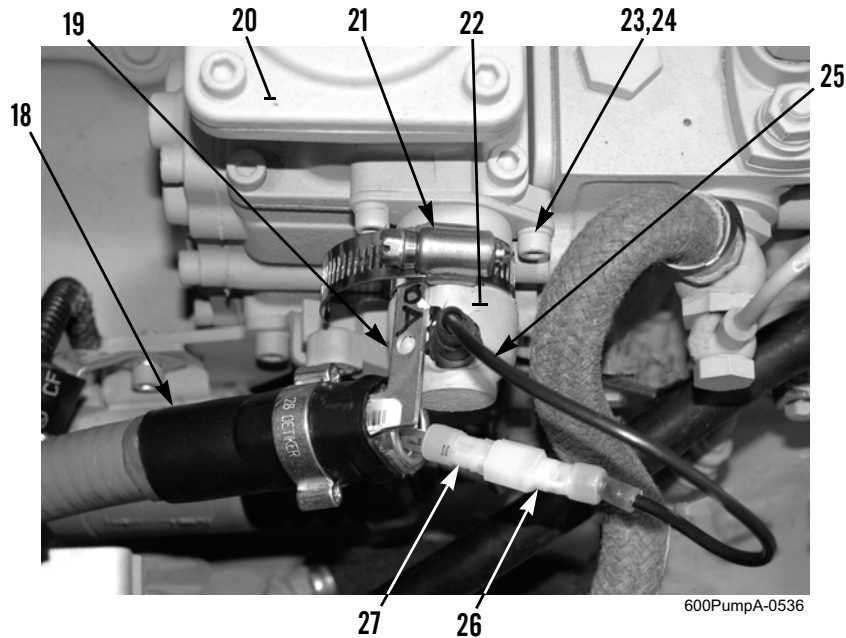
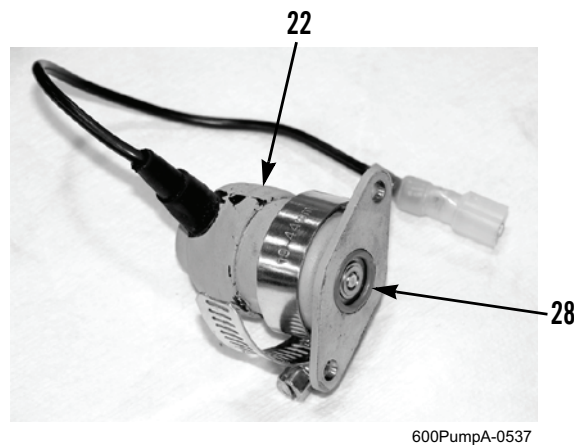

Figure 4. Electromagnet.
Figure 5. Electromagnet O-ring.
2. Pull black wire (Figure 4, Item 25) of electromagnet (Figure 4, Item 22) out of conduit (Figure 4, Item 18).
3. Disconnect connector (Figure 4, Item 26) of electromagnet (Figure 4, Item 22) from engine/control panel wiring harness connector (Figure 4, Item 27).
4. Remove clamp (Figure 4, Item 21) securing conduit L-bracket (Figure 4, Item 19) to electromagnet (Figure 4, Item 22).
5. Remove two capscrews (Figure 4, Item 23), lockwashers (Figure 4, Item 24), and electromagnet (Figure 4, Item 22) from fuel injection pump (Figure 4, Item 20). Discard lockwashers.
6. Remove O-ring (Figure 5, Item 28) from electromagnet (Figure 5, Item 22). Discard O-ring.
1. Install new O-ring (Figure 5, Item 28) to electromagnet (Figure 5, Item 22).
2. Install electromagnet (Figure 4, Item 22) on fuel injection pump (Figure 4, Item 20) with two new lockwashers (Figure 4, Item 24) and capscrews (Figure 4, Item 23).
3. Reposition conduit L-bracket (Figure 4, Item 19) and secure to electromagnet (Figure 4, Item 22) and tighten clamp (Figure 5, Item 21).
4. Connect connector (Figure 4, Item 26) of electromagnet (Figure 4, Item 22) to engine/control panel wiring harness connector (Figure 4, Item 27).
5. Push wire (Figure 4, Item 25) back inside conduit (Figure 4, Item 18).